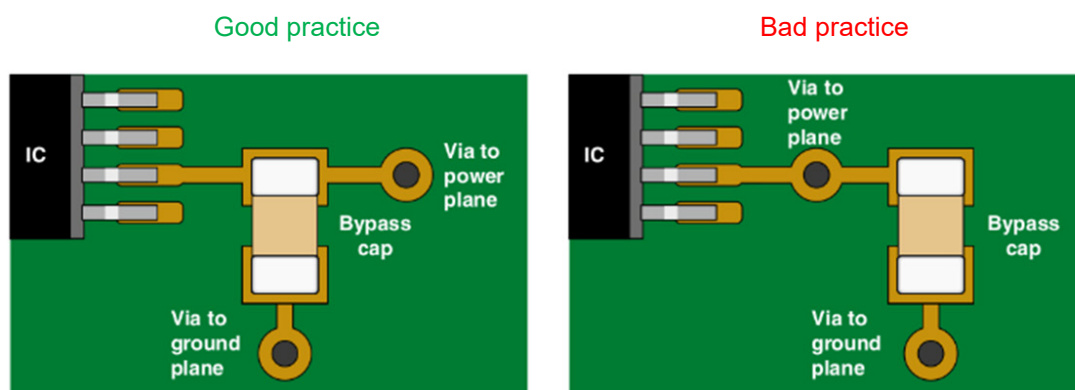

Figure 10. Decoupling Capacitor Layout Practices
- Place the decoupling capacitors in the same layer of the part with a short connection to ground (see Figure 10)